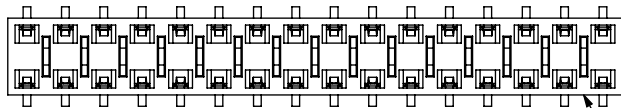

FIG 5
-BE: BOTTOM ENTRY (USE RHLE-50-DBE) (SEE FIG. 5) (LEAVE BLANK FOR STANDARD)